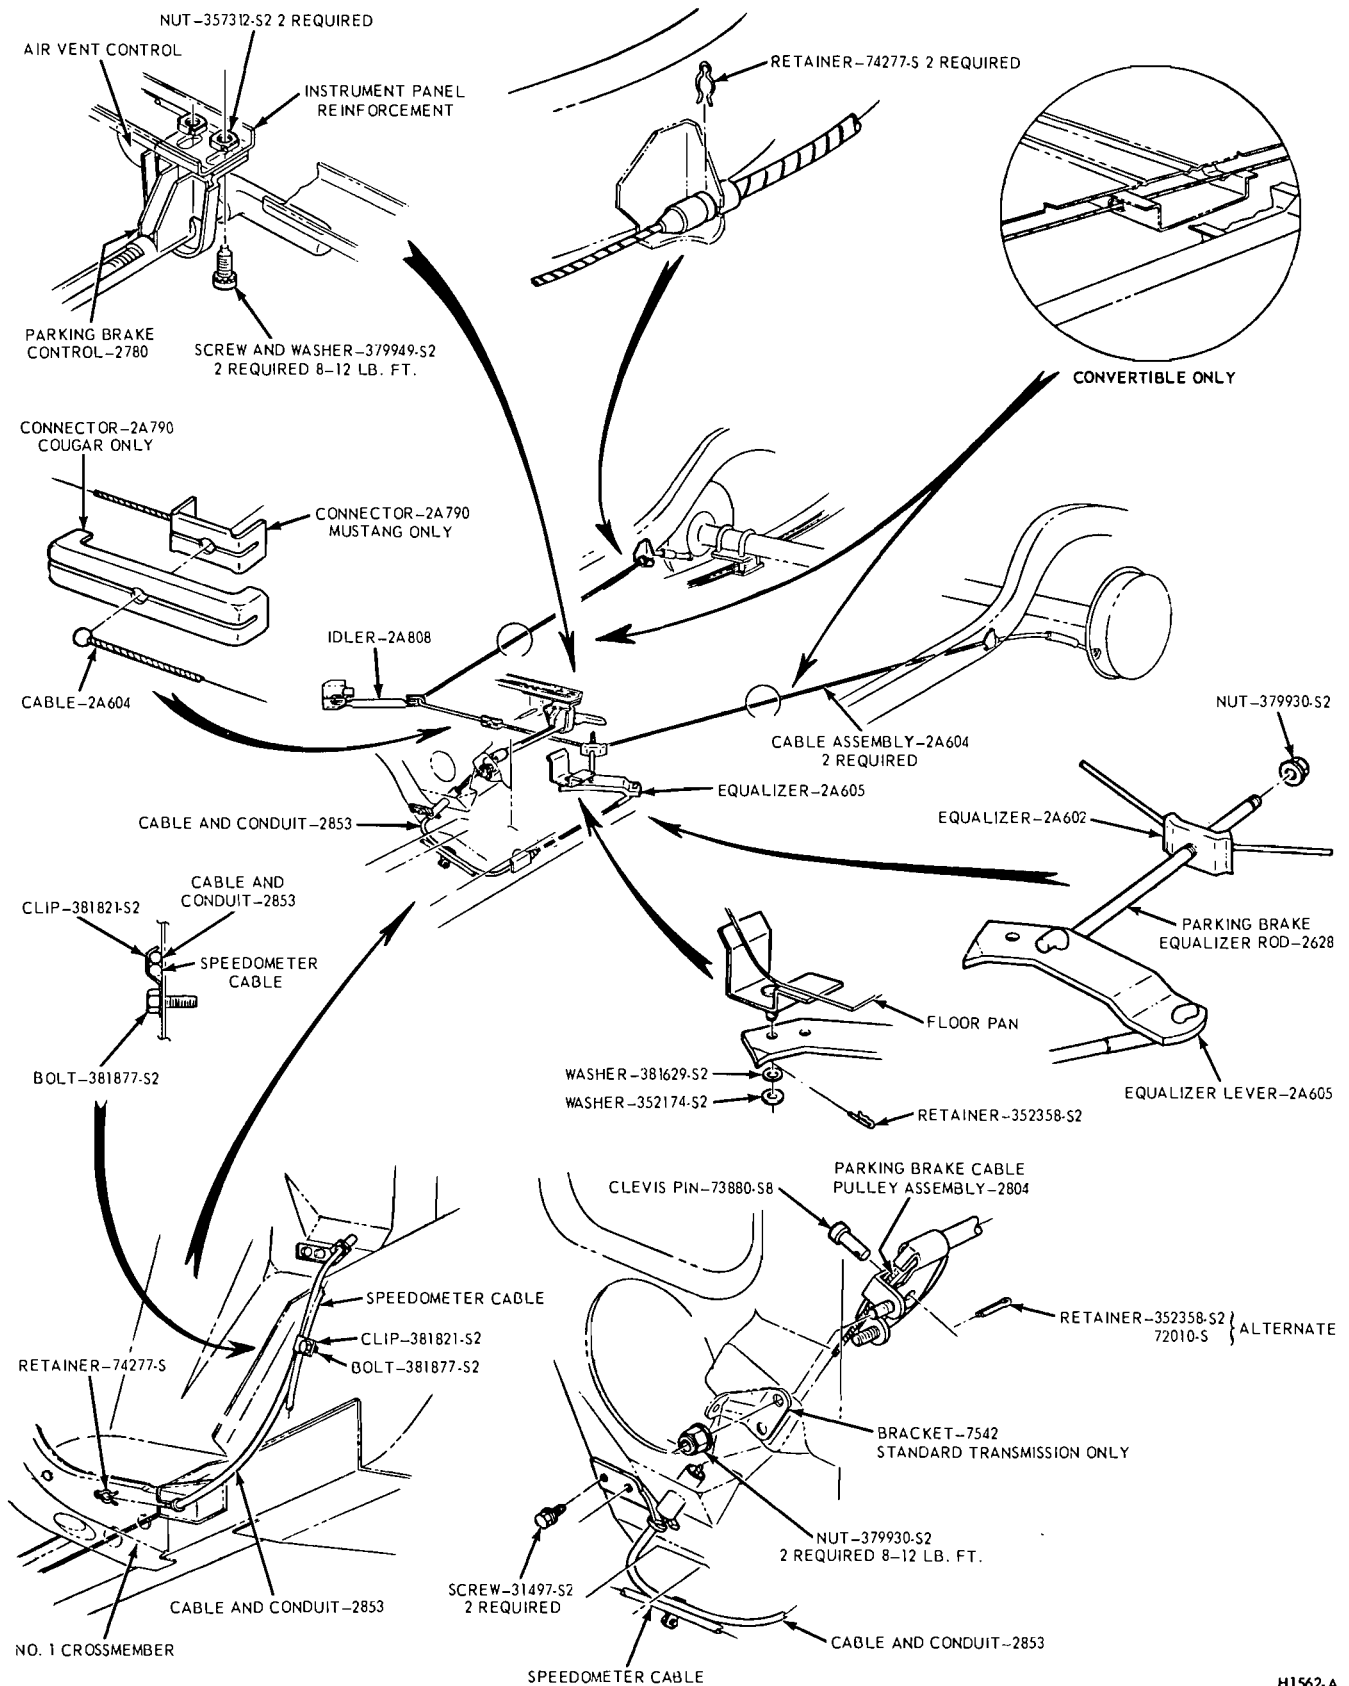

FIG. 31—Parking Brake Linkage — Mustang and Cougar
Do not remove the bridge bolts that hold the two halves of the caliper together. The two caliper housings are shown separated in Fig. 31 for illustration purposes only.
2. Remove the two attaching bolts and the caliper clips (Fig. 31).